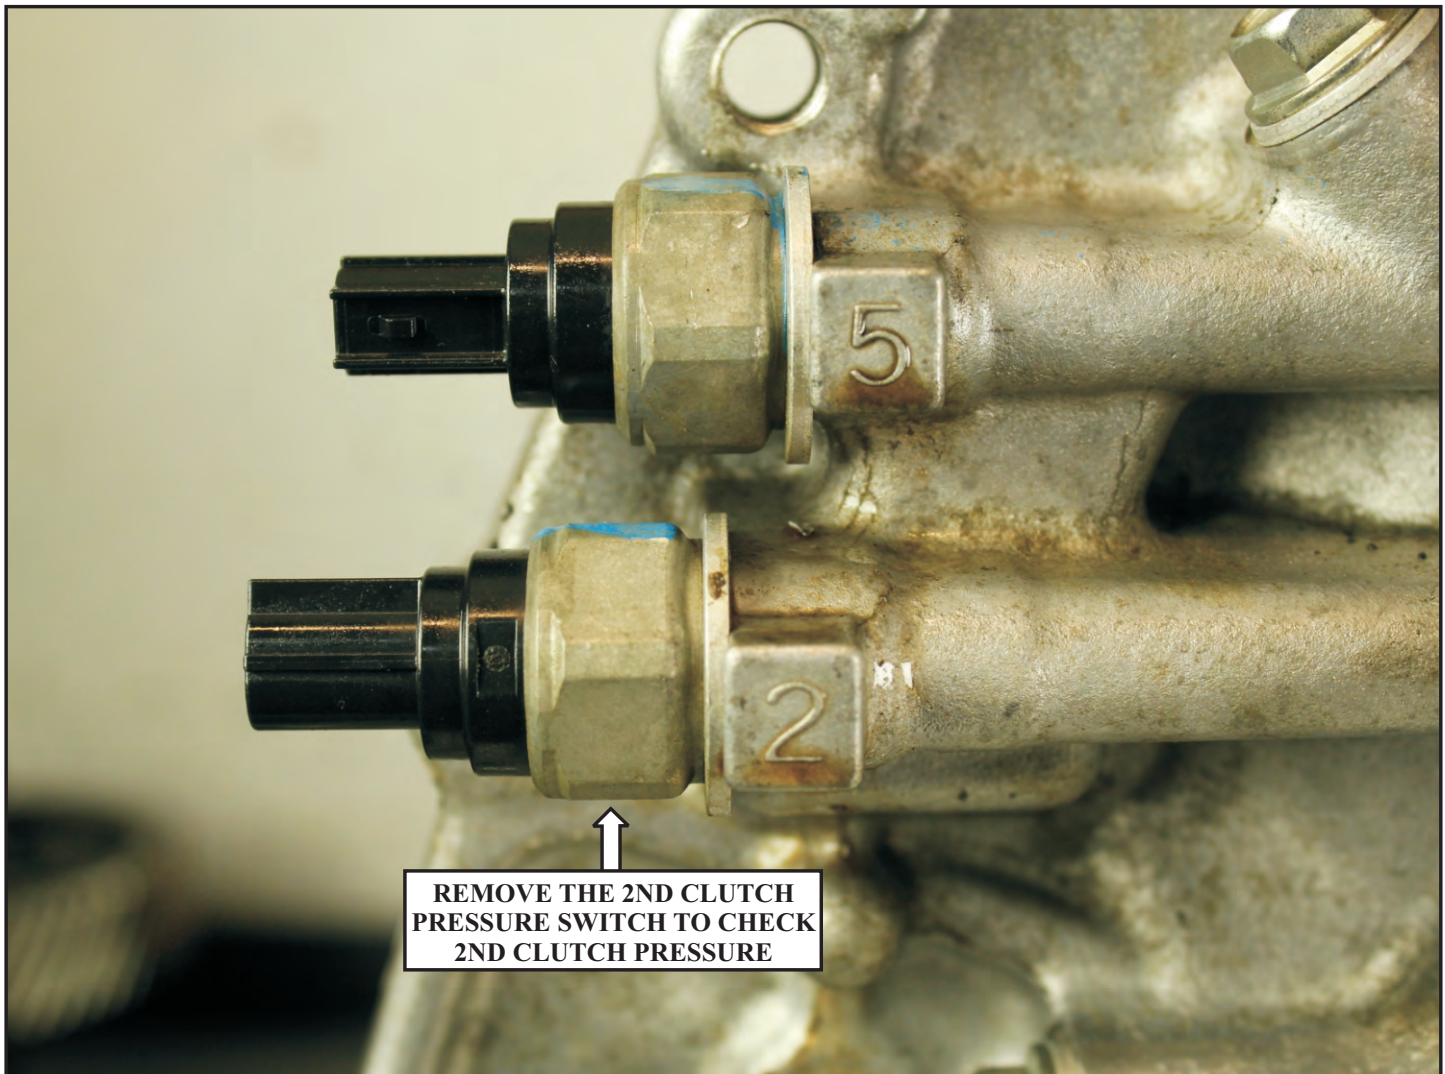

Figure 2
1. Disconnect the 2nd clutch pressure switch connector and remove the 2nd clutch pressure switch that is marked with a "2" shown in figure 2.
1. Disconnect the 4th clutch pressure switch connector and remove the 4th clutch pressure switch shown in figure 2.